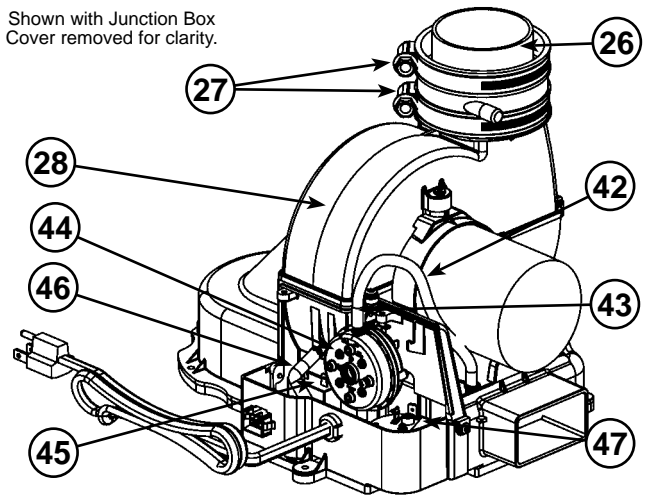

Figure 54.
- 26 ****Rubber Coupling (see Figure 5) (see also Figure 54)
- 27 Gear Clamp (see Figure 5) (see also Figure 54)
- 28 ***Blower with Power Cord (see Figure 5) (see also Figure 54)
- 42 Air Tubing (Intake) (see Figure 5) (see also Figure 54)
- 43 Blower High Limit Switch (see Figure 5) (see also Figure 54)
- 44 Intake Air Pressure Switch (NC) (inside box) (see Figure 5) (see also Figure 54)
- 45 Capacitor (see Figure 5) (see also Figure 54)
- 46 Air Tubing (Exhaust) (see Figure 5) (see also Figure 54)
- 47 Exhaust Air Pressure Switch (NO) (inside box) (see Figure 5) (see also Figure 54)